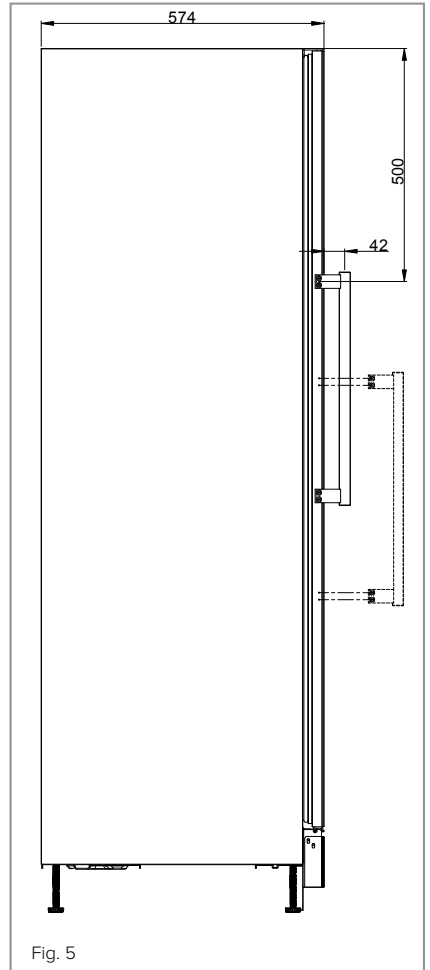

Fig. 5
1. Carefully locate the handle in the required position (this would normally be the higher of the two positions as shown in Fig. 5).